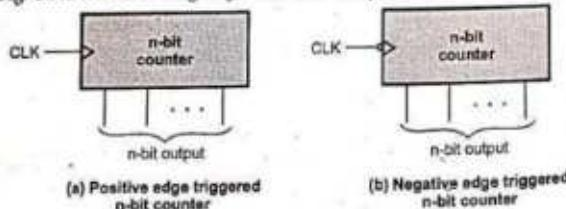

Fig. 5.9.1 Logic symbol of counter
- The Fig. 5.9.1 shows the logic symbol of a binary counter.